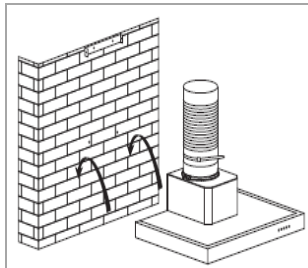

Fig. 4
- Place the telescoped shaft unit and tighten the lower screws 2x ST4\*30mm through the housing to secure it [Fig. 4].